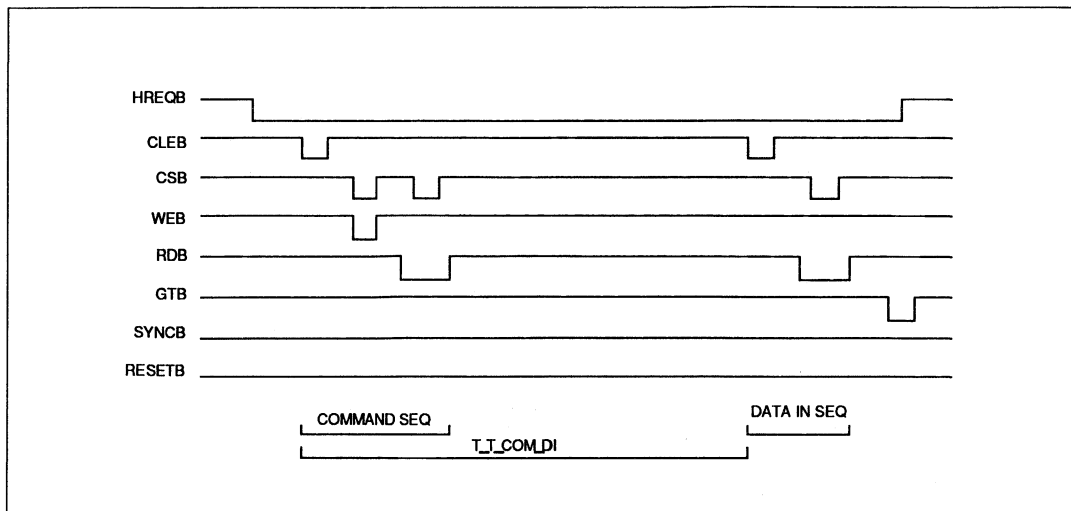

Figure 2.9: Transmit Mode Code + Data
**TRANSMIT MODE CODE+DATA** (Figure 2.9)